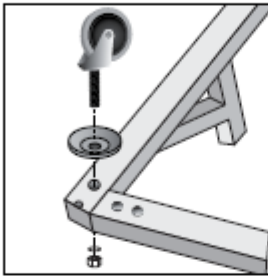

Figure 4
5. Align and insert casters with rubber bumpers. Tighten bolt on opposite side using included wrench. (See Figure 4)